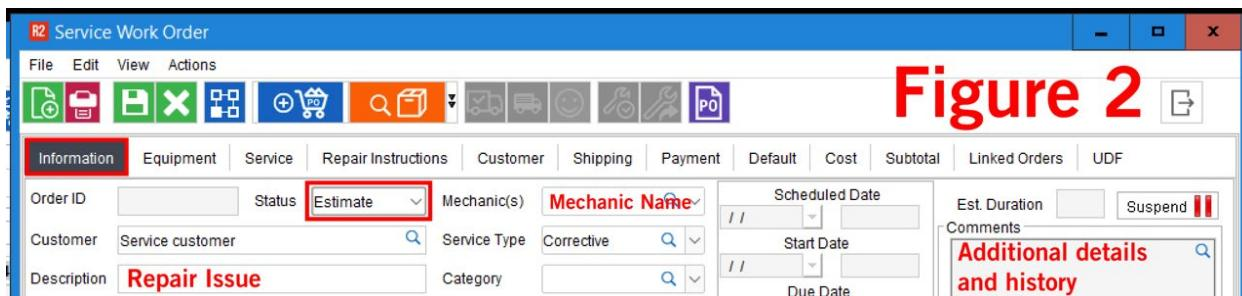

Figure 2
2. Under the **Information** tab briefly summarize the nature of the damage/problem on the **Description** field (Figure 2)